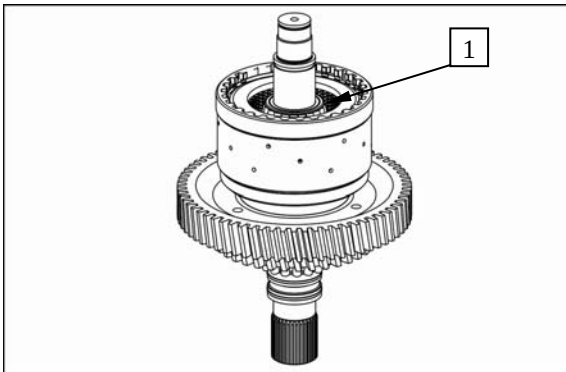

Figure 48
**Contact for tapered roller bearing - see Figure 48!**